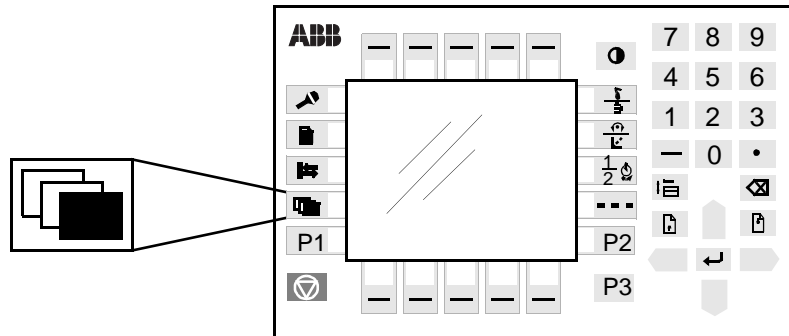

Figure 28 The Misc. window key from which the Service window can be selected
1. Press the **Misc.** window key (see Figure 28).